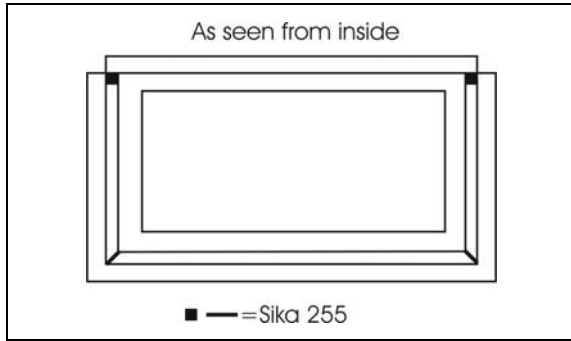

FIGURE 67: SIKa 255 APPLICATION
3. Apply Sika 255 (or 252) at the upper and lower frame corner as per FIGURE 67.